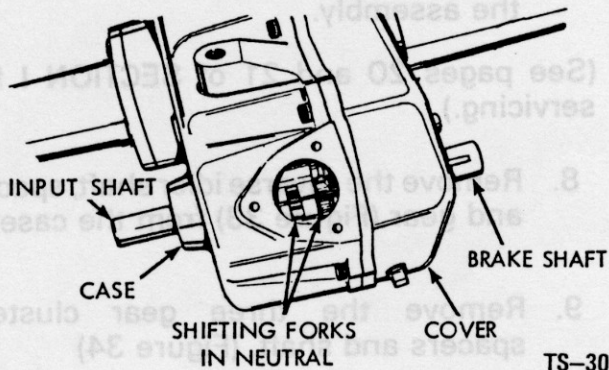

Figure 30 - Transaxle Case
2. Place shifter shaft (Figure 30) in neutral.
3. Remove shifter lever assembly by removing (3) cap screws and lifting assembly from the transaxle. (See Page 20 of SECTION I for servicing.)
5. Drive dowel pins (2) into the case, remove socket head cap screws and lift the cover from the case. Discard gasket.